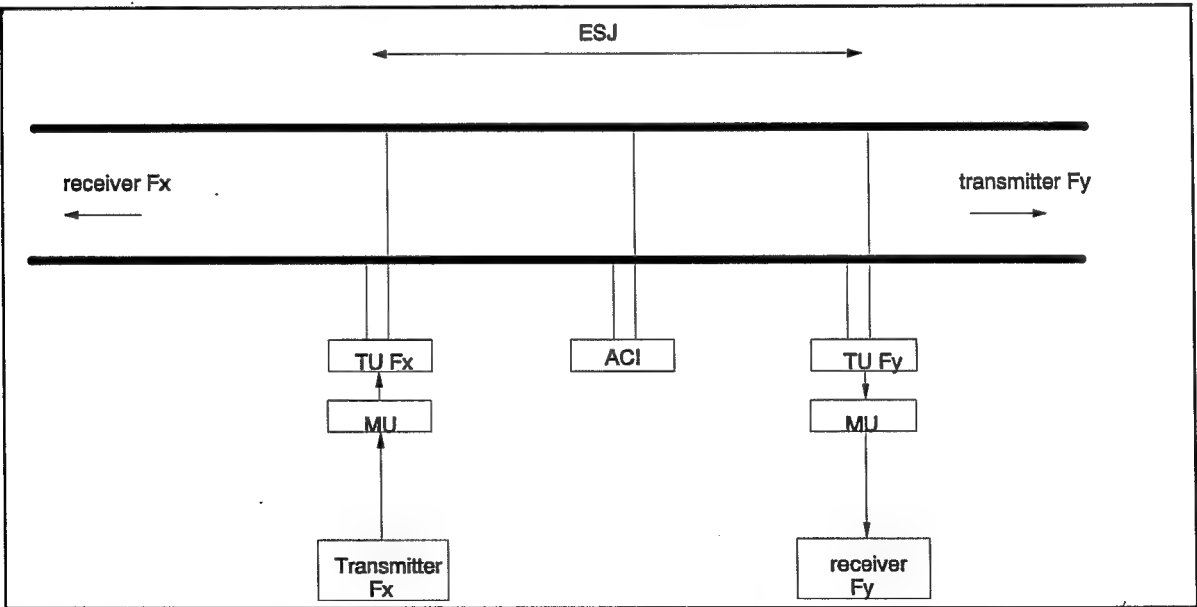

Figure 6 - config. transmitter/receiver
- a transmitter Fx and a receiver Fy (fig.6), as generally found on end of section transmission track circuits (see diagram below).